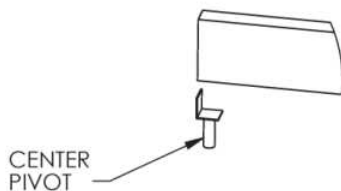

Fig. 5 – Center pivot
3. Fasten a scribe point to leveling arm as shown in Fig. 4 and a center pivot as shown in Fig. 5.